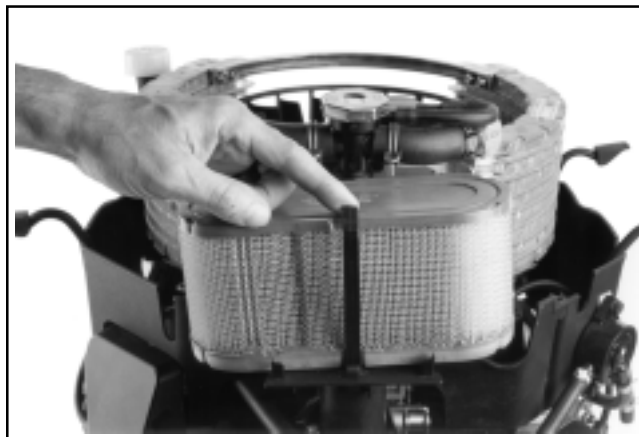

Figure 4-8. Unhooking Retainer Strap.
3. Unhook the filter element retaining strap and remove the paper element from the air cleaner base. See Figure 4-8.